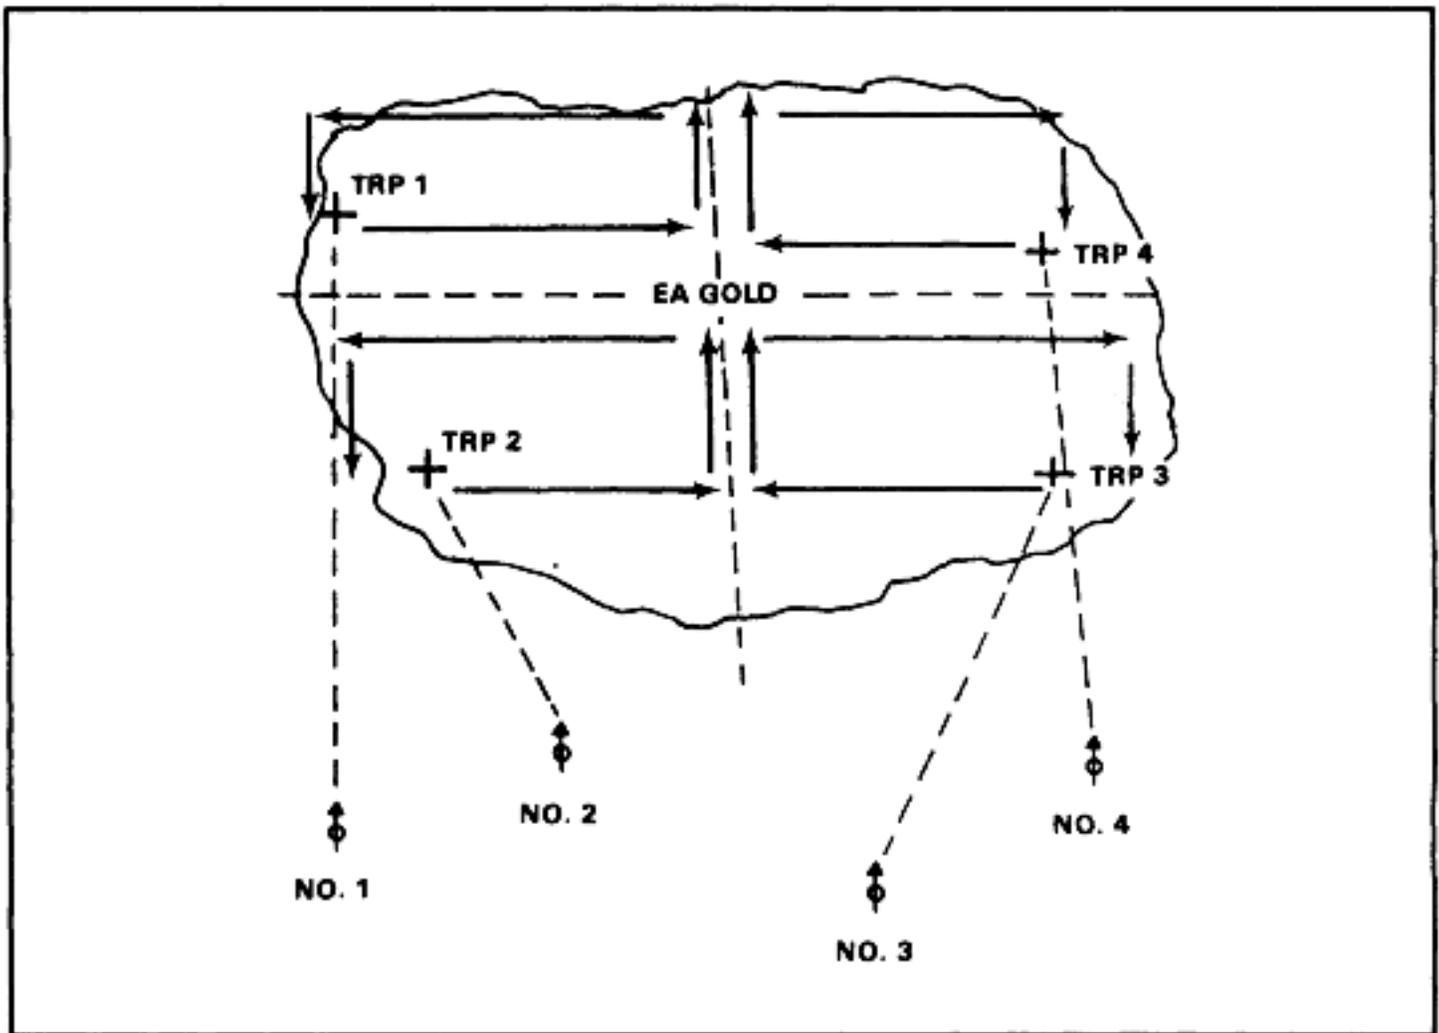

Figure 6-20. Use of massed fires, time not a factor.
(1) Defensive operations. There are two types of defensive operations.
- Defense, time not a factor. Massing fires into an EA (engagement area) has advantages over other types of area fire engagements. Once TRPs are designated, gunners may fire upon them to register or rehearse the MK 19s. After the target has been subdivided and TRPs registered, the gunners traverse, search up, traverse back, and search down through their assigned parts of the target to assure full coverage of the target (Figure 6-20). The same method applies regardless of how many MK 19s are used. If four or six guns are used, the leader must subdivide the target and assign more TRPs than for a pair of MK 19s. An example of a fire command for this situation follows: